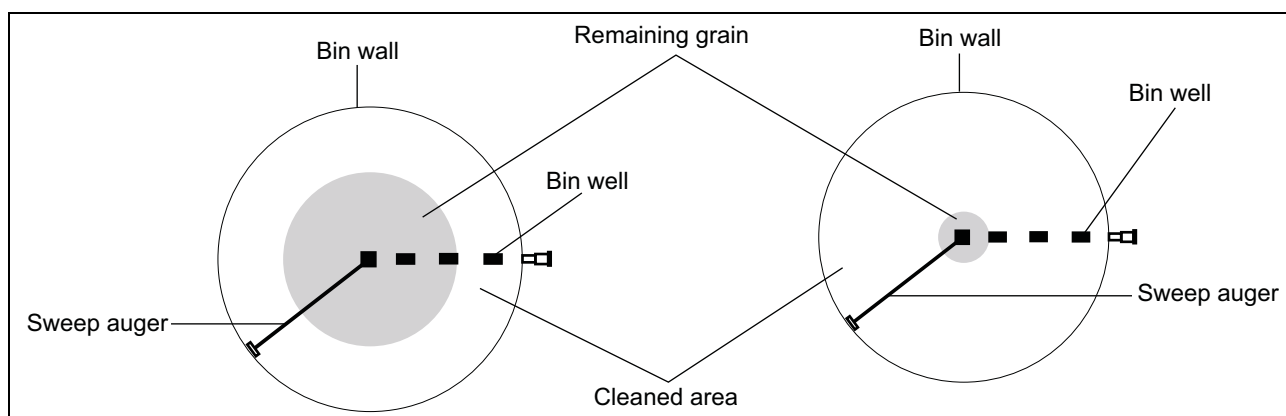

Figure 5G Top View of Bin
1. Clean (scoop and sweep by hand) the outer area of the floor into a circular pile towards the center of the bin. (See Figure 5G.)
5. Scoop and sweep by hand the remaining floor area to the center of the bin. (See Figure 5G.)